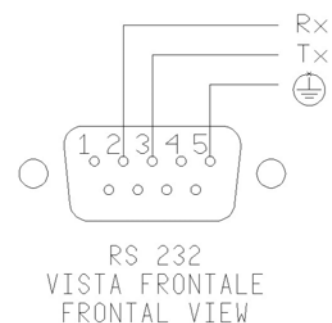

Fig.8
- Connect the thermostat's electrical terminals to the bushes terminals (4).
On the front of the calibrator there is a 9 pole socket (5) connected to the thermo-regulator, which enables the calibrator to be completely controlled by a PC (reference to fig.8). The standard adopted RS-232 (contact the technical department for the communication number).